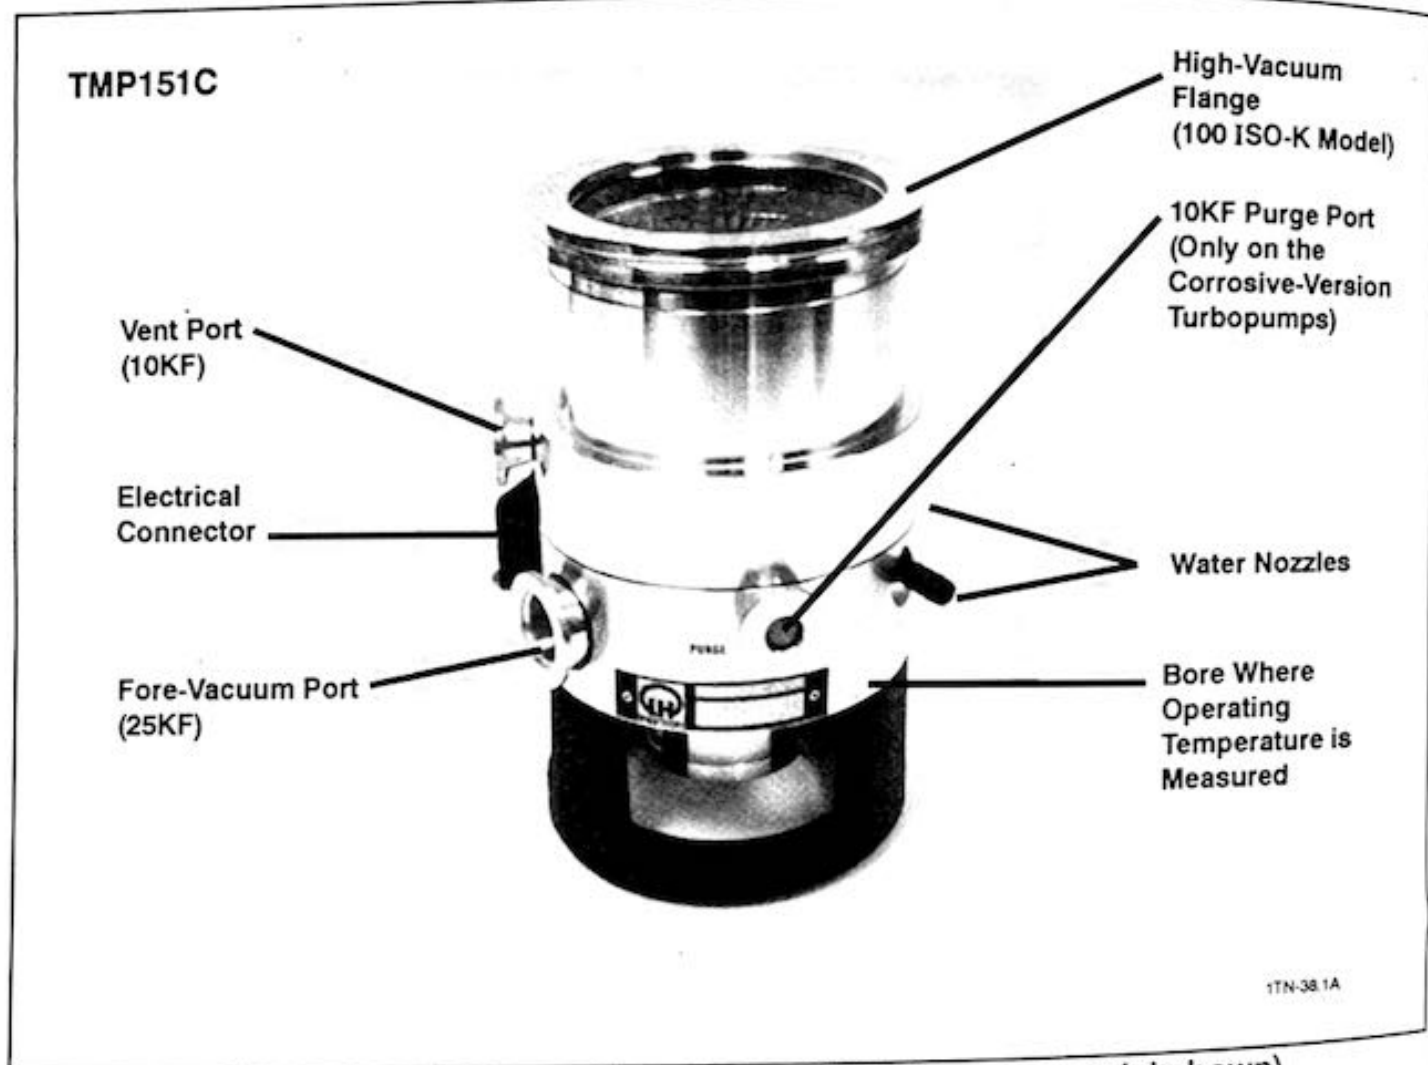

Figure 2-6. Turbopump Connections (TMP151C pump model shown)
The turbopump is normally water cooled using a clean source of tap water connected to its water nozzles (see Figure 2-6). Installation instructions for water cooling are given in Section 2.3.4.1.
Connect a source of clean tap water to one of the turbopump's water nozzles; it doesn't matter which one is used (see Figure 2-6). The minimum cooling water consumption is about 0.3 l/minute (5.3 gal/hr). The higher the cooling-water temperature, the higher the required cooling-water flow. The maximum water pressure is 60 psig. Use $1\frac{3}{32}$ -inch (10-mm) ID hose to make the water connection. Connect a second hose from the nearest water drain to the turbopump's other water nozzle. Use hose clamps to secure both hoses to the water nozzles.
The standard TMP151/361 pump models have a 10KF vent port on the pump housing. The corrosive-series TMP151C and TMP361C pump models have a 10KF purge port in addition to the vent port; the lower 10KF port on the base flange is the purge port (see Figure 2-6).
1. **For the TMP150C and TMP360C pump models only**, ensure that the purge port is sealed with its blank flange (see Figure 2-6). The standard TMP151 and TMP361 pump models don't have a purge port.
3. Use the 10KF centering ring and clamp ring to connect the vent valve to the turbopump's vent port (see Figure 2-6).
For corrosive application, install the optional Purge/Vent valve as follows (see Figures 2-6):
1. Ensure that the vent port is sealed with its blank flange (see Figure 2-6).